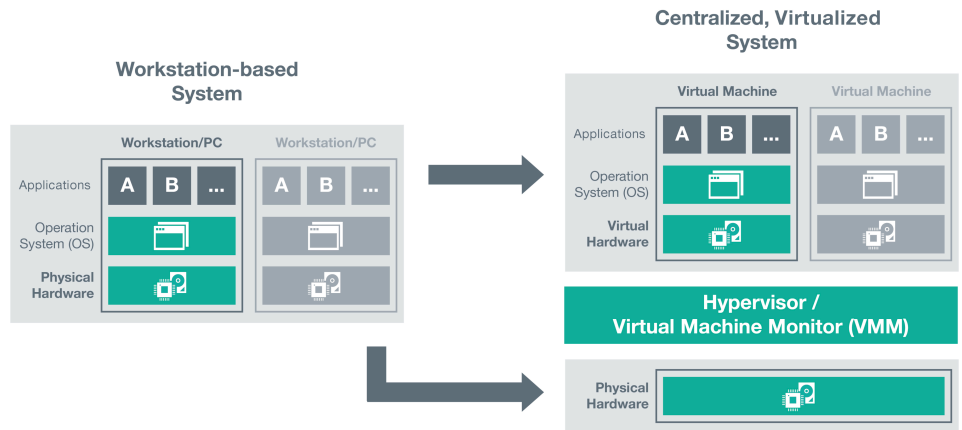

Figure 2: Virtualization hardware architecture
Especially in server virtualization and VDI, an additional software layer on the host server enables the virtualization and separation of the hardware and the guest operating system and applications. This software, called a hypervisor, intercepts all operations of the guest OSs and the host server hardware. Each guest OS runs in its own virtual machine (VM) that is a pure software container, which provides a virtual hardware interface and gives the guest OS and applications the impression that they run natively on their own hardware. Each VM has an interface to the hypervisor that controls the physical hardware and assigns the resources concurrently to the VMs. (See Figure 2.)